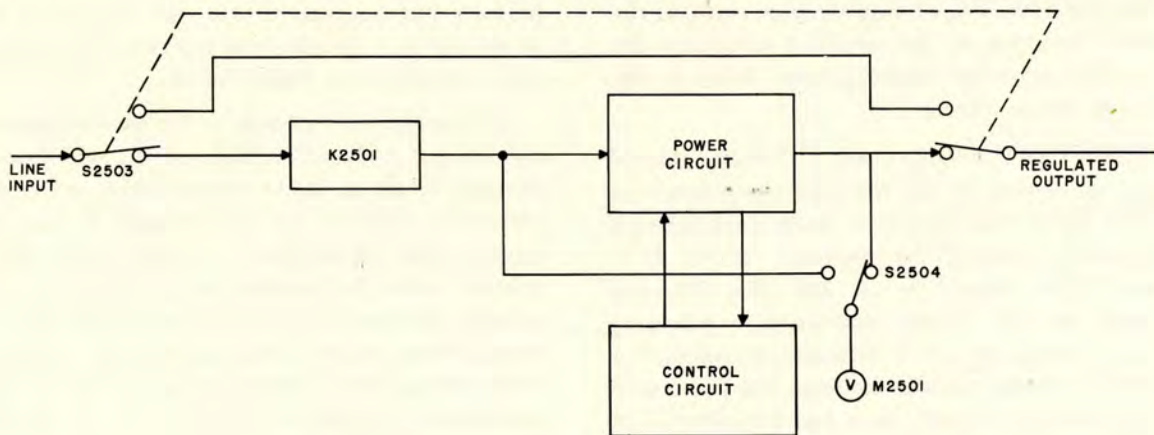

Figure 2-13. Voltage Regulator, Block Diagram
a. BLOCK DIAGRAM OF VOLTAGE REGULATOR. — As shown in figure 2-13 the voltage regulator consists principally of two circuits, the power circuit and the control circuit. The power circuit is primarily a motor-driven variable autotransformer